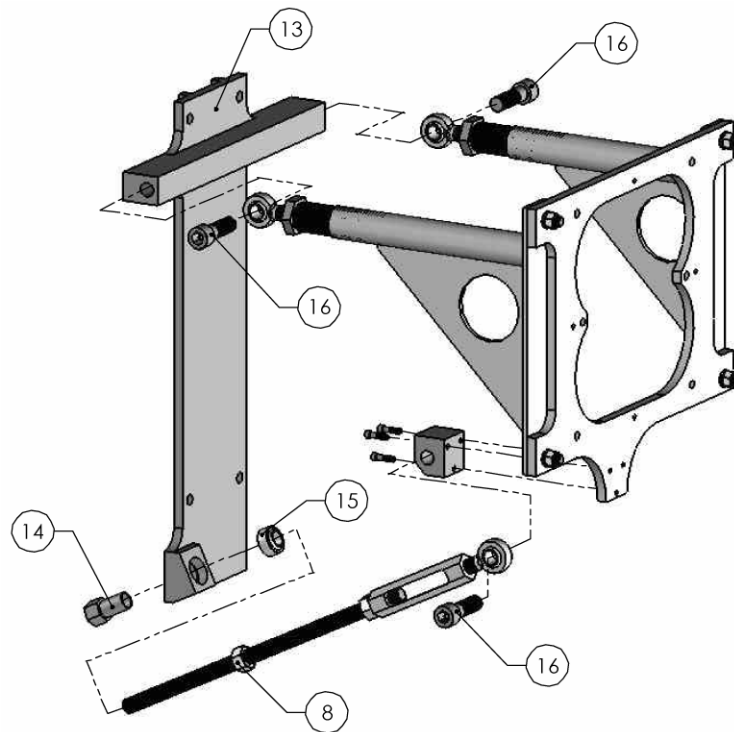

Figure 5. Antenna Mount Plate and Pole Plate Assembly.
2.4.3 Assemble Antenna Mount Plate and Pole Plate (see Figure 5)